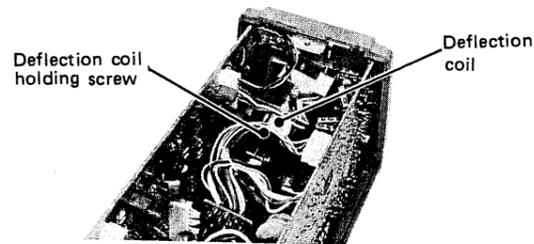

Fig. 8
- Loosen one deflection coil holding screws. (Fig. 8)
- Tighten the deflection coil holding screw. (Fig. 8)